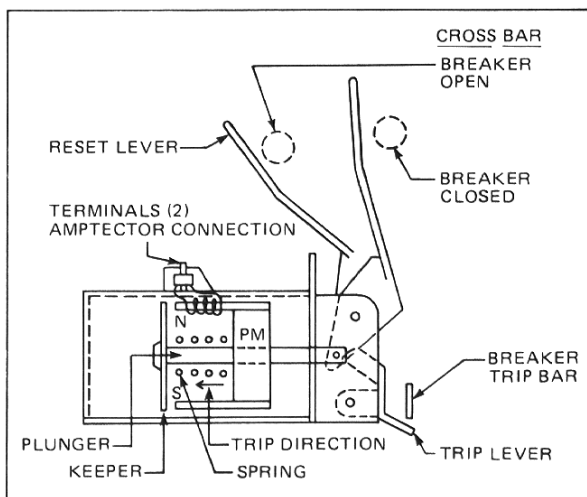

Fig. 6 Actuator Diagram
When the actuator receives a tripping pulse from the Amprector, it releases a mechanical force to trip the breaker. The actuator is made up of a permanent magnet and a spring (see Fig. 6). When the breaker is open, the cross bar pushes the reset lever. The reset lever moves the plunger out, and the plunger then compresses the spring and pulls the keeper until it contacts the pole pieces of
3. Operate the actuator a few times. Alternately pull back on the reset lever (see Fig. 6) and then trip by applying 9 to 12 volts D-C (be sure to use correct polarity) to the terminals.